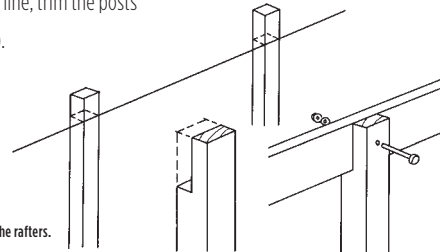

Fig 5 Fixing the rafters.
- With the aid of a string line, trim the posts to desired height (fig5).